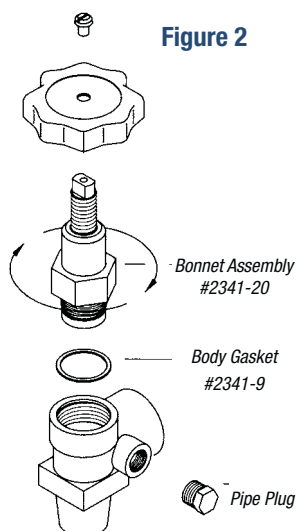

Figure 2
2. Use the screwdriver (or #25 Torx driver) to remove the handwheel screw and handwheel. With the 1 $\frac{1}{16}$ " socket and wrench, fully loosen the bonnet nut by turning it in a clockwise direction (bonnet threads are left-hand) as shown in Figure 2. With the bonnet threads disengaged from the body, lift the bonnet and stem assembly out of the valve body and discard the entire assembly. Do not reuse any of the old parts except the handwheel and screw. See Figure 2.